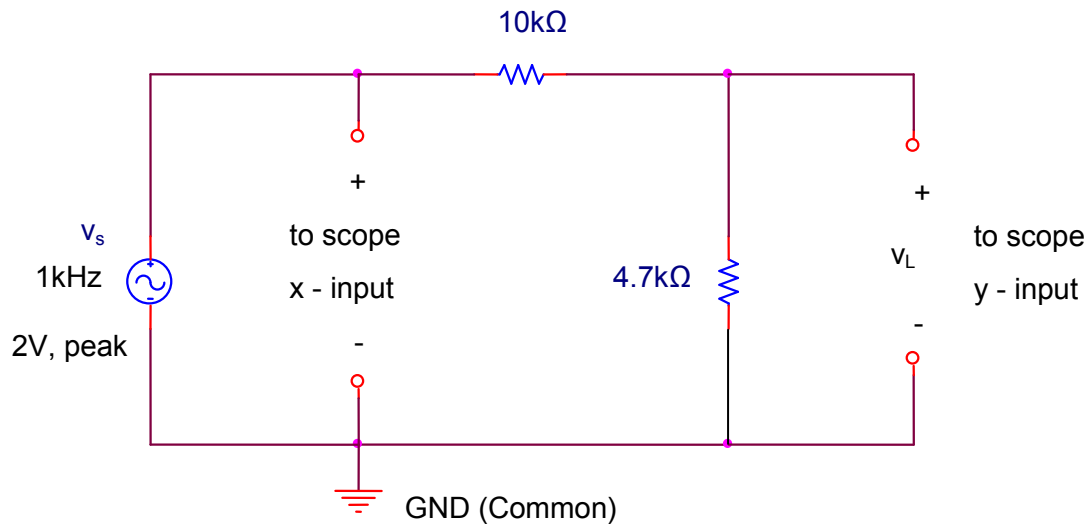

Figure 2.1
3) Construct the circuit shown in figure 2.1. Using the analog oscilloscope, set the sensitivity knobs on channels one and two to the same setting. Select the display mode setting of X-Y. Connect VL to channel two and VS to channel one.